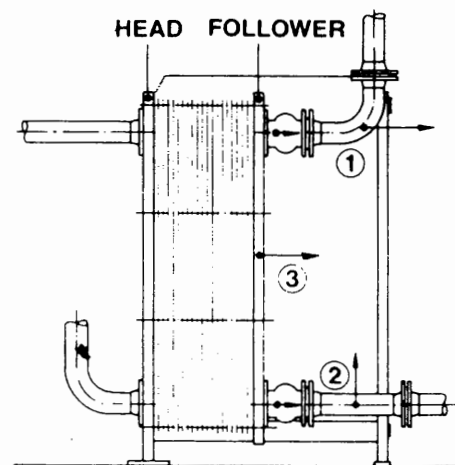

Fig. 12
Flanged connections must be removable. Fig. 12 shows a correctly connected unit. If necessary, a suitable filter should be installed on the fluid inlet. Insulating valves are also recommended on all connections. Thermometers, pressure gauges etc. should be used as required for monitoring the plate heat exchanger performance.
3.2.3) CORRECT PIPE MOUNTING (FIG. 12)